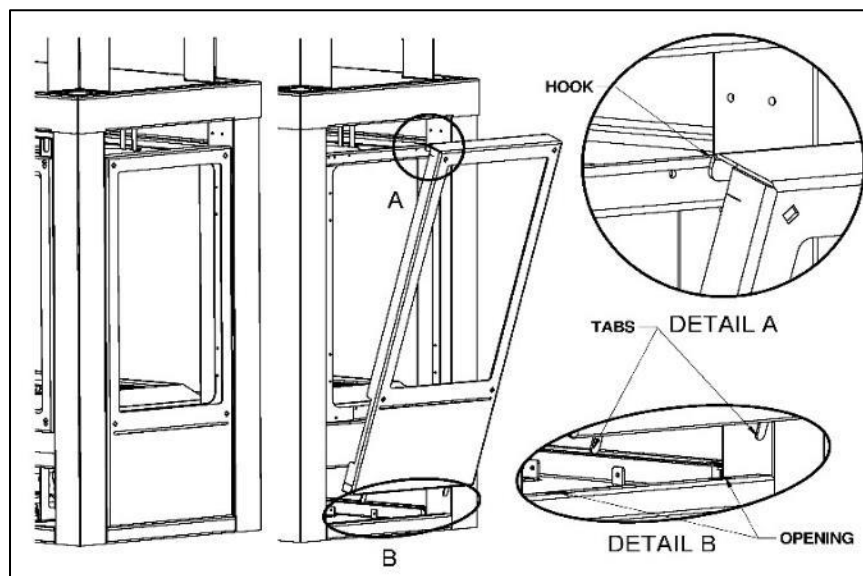

Figure 8.4.1
- Start by inserting the tabs of the window frame in the opening located at the bottom of the appliance (Figure 8.4.1.Detail B).
- Tilt the top of the window frame and slightly lift it (without removing the bottom tabs from their slots) to positioning the hook (Figure 8.4.1 Detail A) in place.
- Raise vertically to disengage the hook (Figure 8.4.1 Detail A).
- Disengage the bottom tabs. (Figure 8.4.1 Detail B)